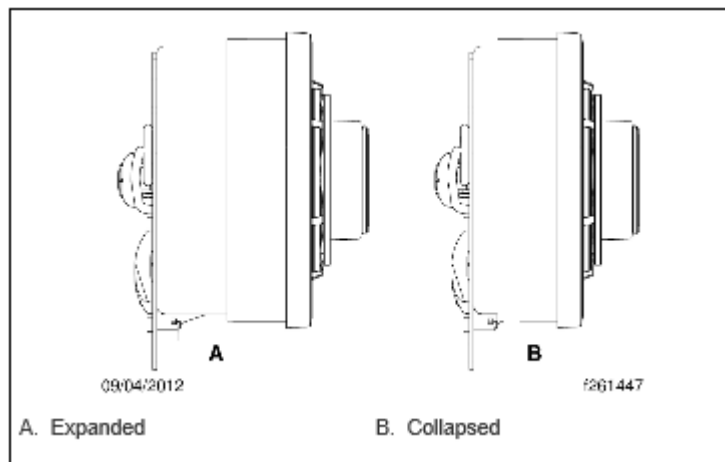

Fig. 3, CPCA Expanded and Collapsed Positions
1. Ensure that the clutch actuator (CPCA) is fully collapsed before mating the transmission to the engine. If not, collapse the CPCA by hand, or loosen the attachment bolts enough to break the O-ring seal, hold the actuator collapsed, and tighten the fasteners 40 lbf·ft (55 N·m). See Fig. 3.